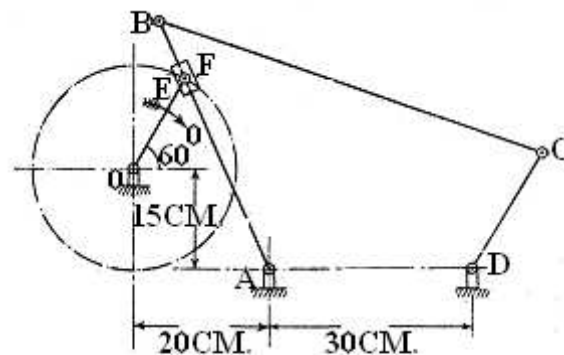

Figure 2:
8. For the mechanism shown in fig.2 the length of the various links are OE=15cms, AB=40cms, BC=60cms CD=20cms. The crank OE rotates at 70rpm. For the configuration shown in the figure 2 determine,